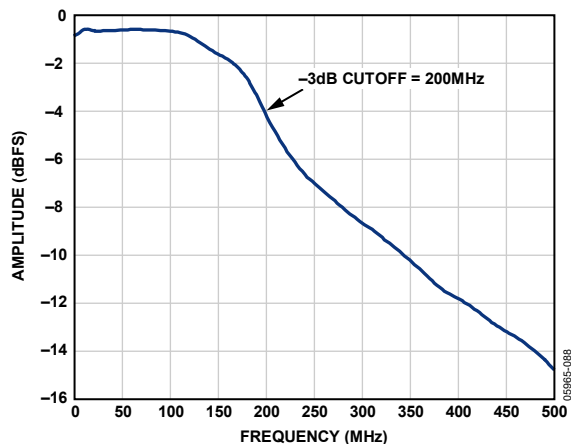

Figure 61. Evaluation Board Full-Power Bandwidth
- **AIN:** The evaluation board is set up for a transformer-coupled analog input with an optimum 50  $\Omega$  impedance match of 200 MHz of bandwidth (see Figure 61). For more bandwidth response, the differential capacitor across the analog inputs can be changed or removed. The common mode of the analog inputs is developed from the center tap of the transformer or AVDD\_DUT/2.